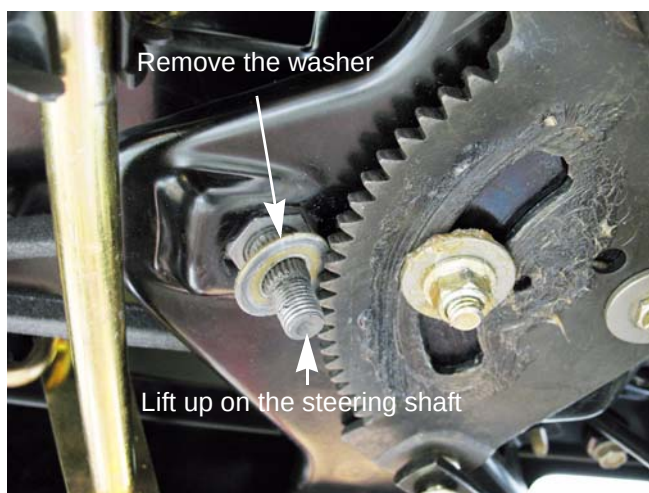

Figure 3.10
5. Lift up on the steering shaft and remove the washer. See Figure 3.10.